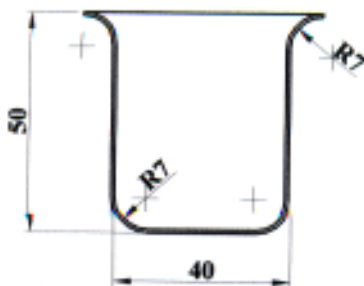

Fig. 2
3. Design a drawing die for the shell shown in fig. 2 drawn from CRC sheet of 2 mm thickness and  $UTS = 240N/mm^2$ . **16**